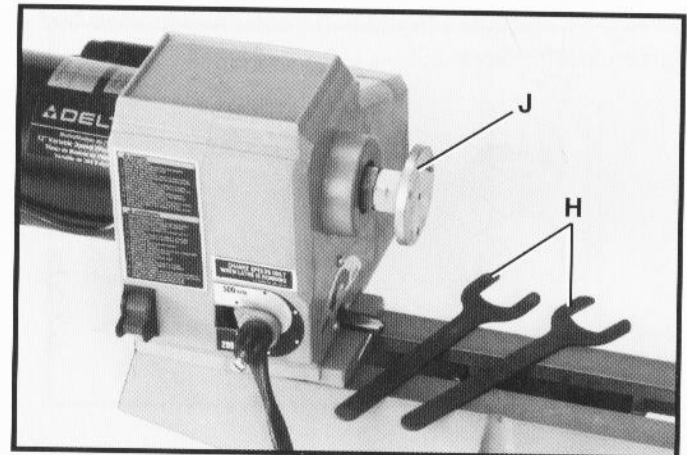

Fig. 11
4. Using two spindle wrenches (H) Fig. 11 supplied, remove face plate (J) from headstock spindle.